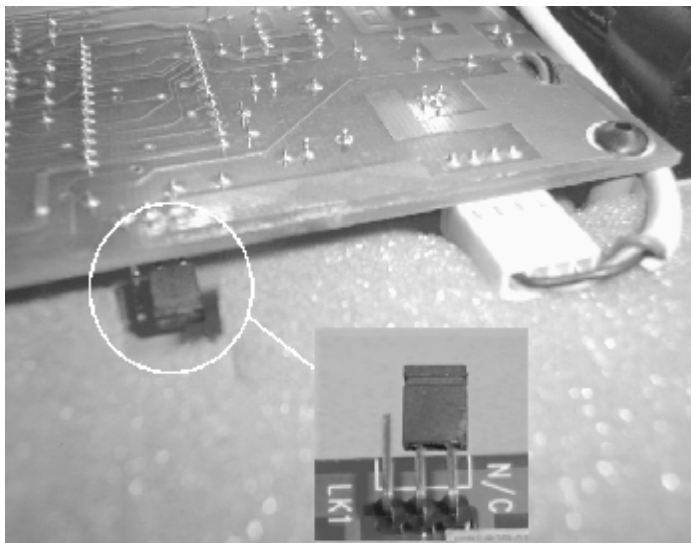

Fig. 7
3. Fit the jumper at LK1, on the two pins furthest from the Potentiometer connector - See Fig. 7